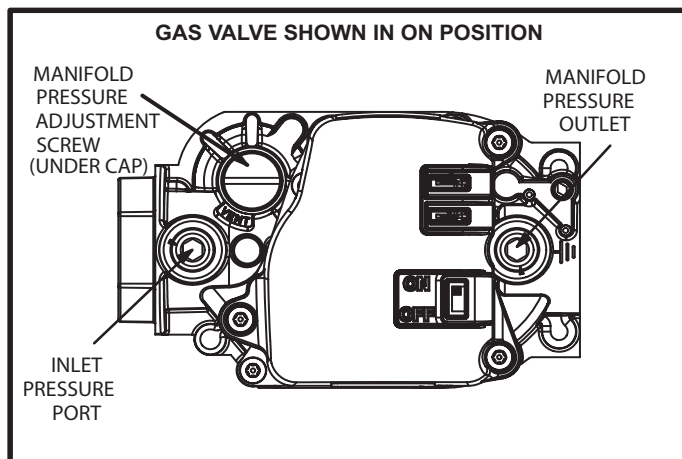

FIGURE 50
Gas Valve Operation (Figure 50)
6. Move gas valve switch to **OFF**. See Figure 50.
8. Move gas valve switch to **ON**. See Figure 50.